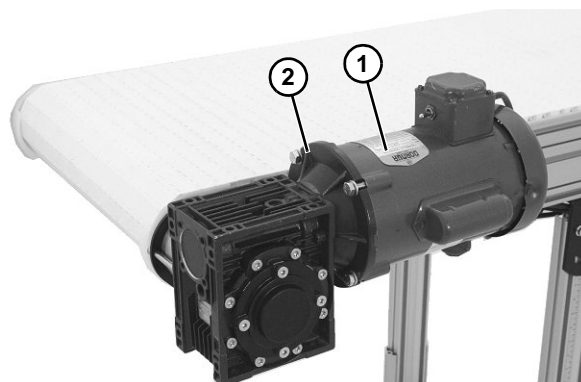

Figure 37
1. Attach the motor (**Figure 37, item 1**) to the gear reducer (**Figure 37, item 2**). (End Drive shown below.)